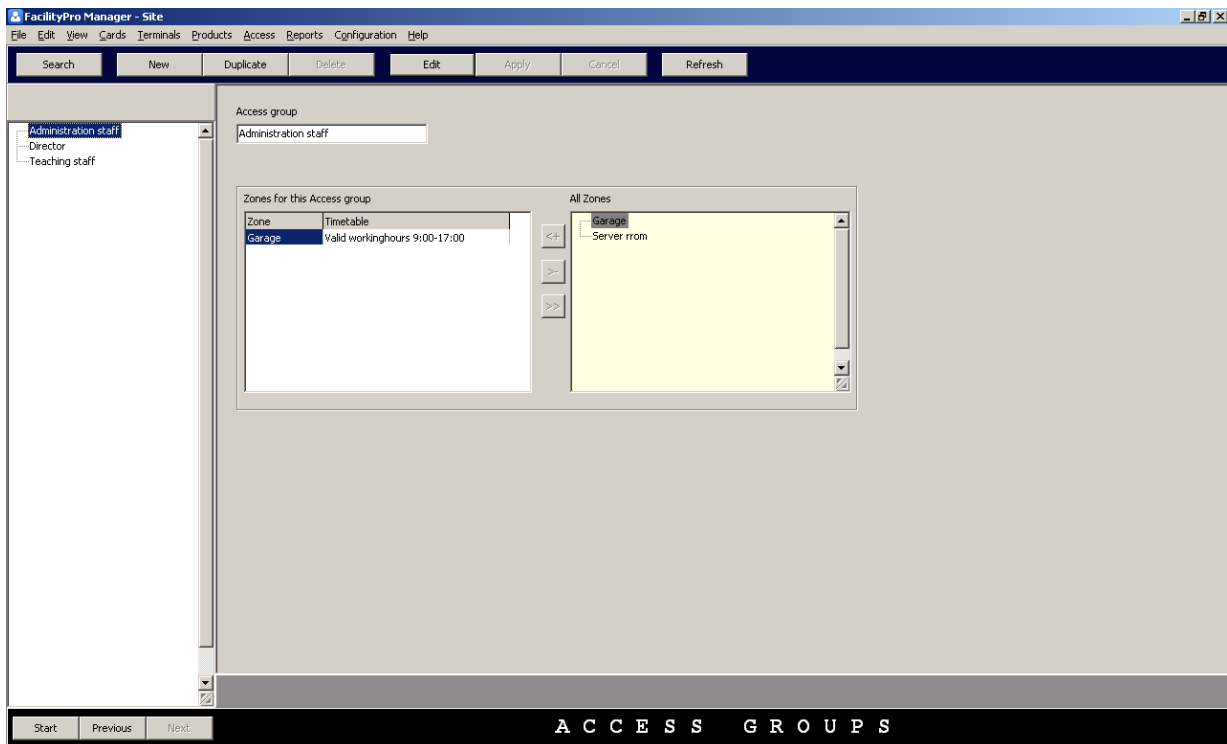

Figure 6-2 The access groups data screen
2. Choose **Access groups**. You will see the access groups data screen (Figure 6-2). On the right you will see a list of all the zones in the database. On the left you will see a list (which might be empty) of the zones that have been included in the selected access group, with a column for filling in a timetable for each zone.